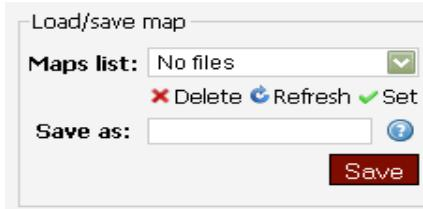

Fig. 55: Left menu of synoptic map - map loading and saving
d) Load/ save map - allows for saving a map and loading a previously saved synoptic map (fig. 55).